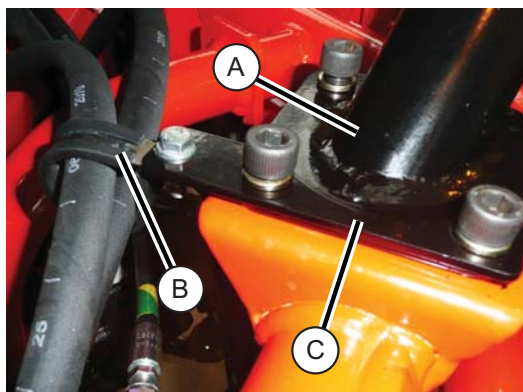

Figure 19
27. Fit the bracket hose clamp C Figure 19, part 4248590, to the ROPS rear right bracket A Figure 19. Feed the hydraulic hoses parts 4147141 and 4240403 through the cushioned p-clip B Figure 19, part 523213. Fit the p-clip to the bracket hose clamp as indicated in Figure 19.